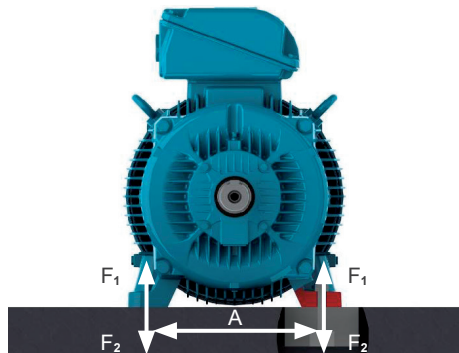

Figure 6.3: Motor installed on a concrete base
The foundation stresses can be calculated by using the following equations (see Figure 6.3 on page 31):
- Metallic bases: are generally used for small-size motors (see Figure 6.3 on page 31).